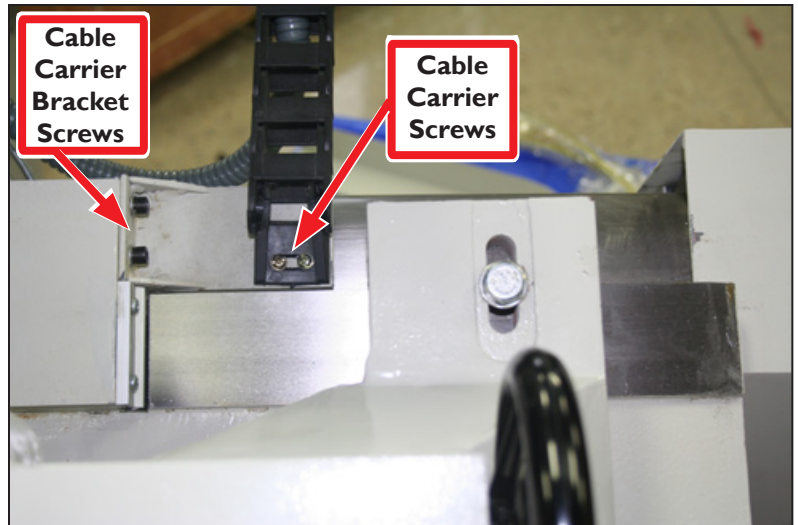

Figure 7
12. Remove two Cable Carrier screws and nuts (see **Figure 7**); set aside.
13. Remove two Cable Carrier Bracket cap screws that attach bracket to the mill (see **Figure 7**); set aside. Discard bracket.